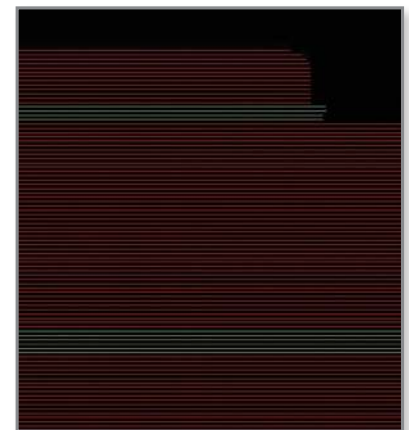

Figure 5: Support layers (white) between model layers (red).
STEP 10: Confirm that a support layer exists between model layers (Figure 5).